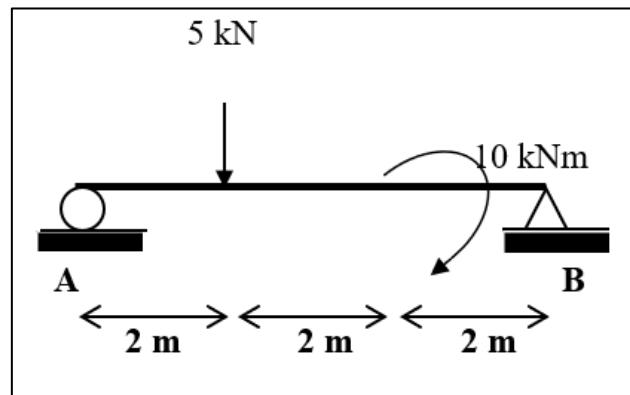

Figure B4(c)
(b) Refer to Figure B4(b), calculate the bending moment maximum.
- (c) Illustrate the shear force and bending moment diagram for the beam in Figure B4(c) below.